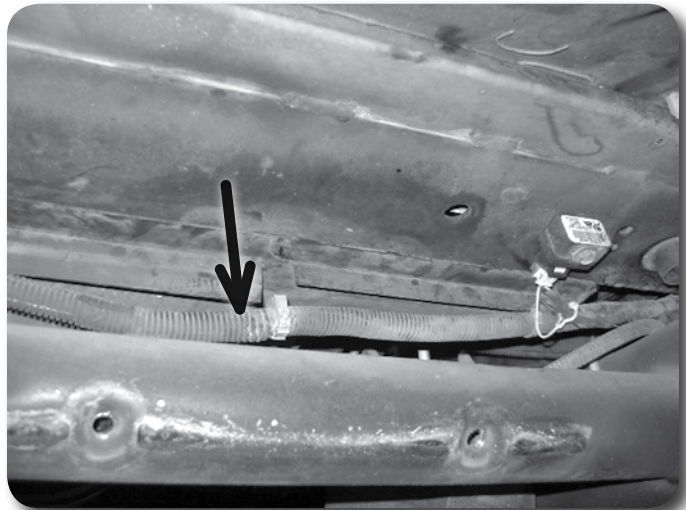
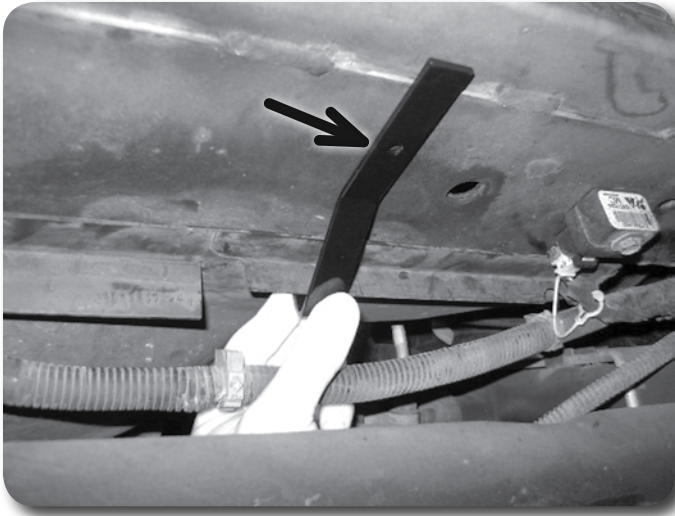

Figure 17A
Figure 17B
33. Working from the bottom of the fan shroud, pull the wire loom out away from the fan shroud. **Figure 17A** Locate the provided lower fan shroud brackets (2) and position them as shown. **Figure 17B** The lower horizontal shroud lip should rest just below the core support and the shroud pulled tight forward. Use the brackets to mark the position of the holes to be drilled.